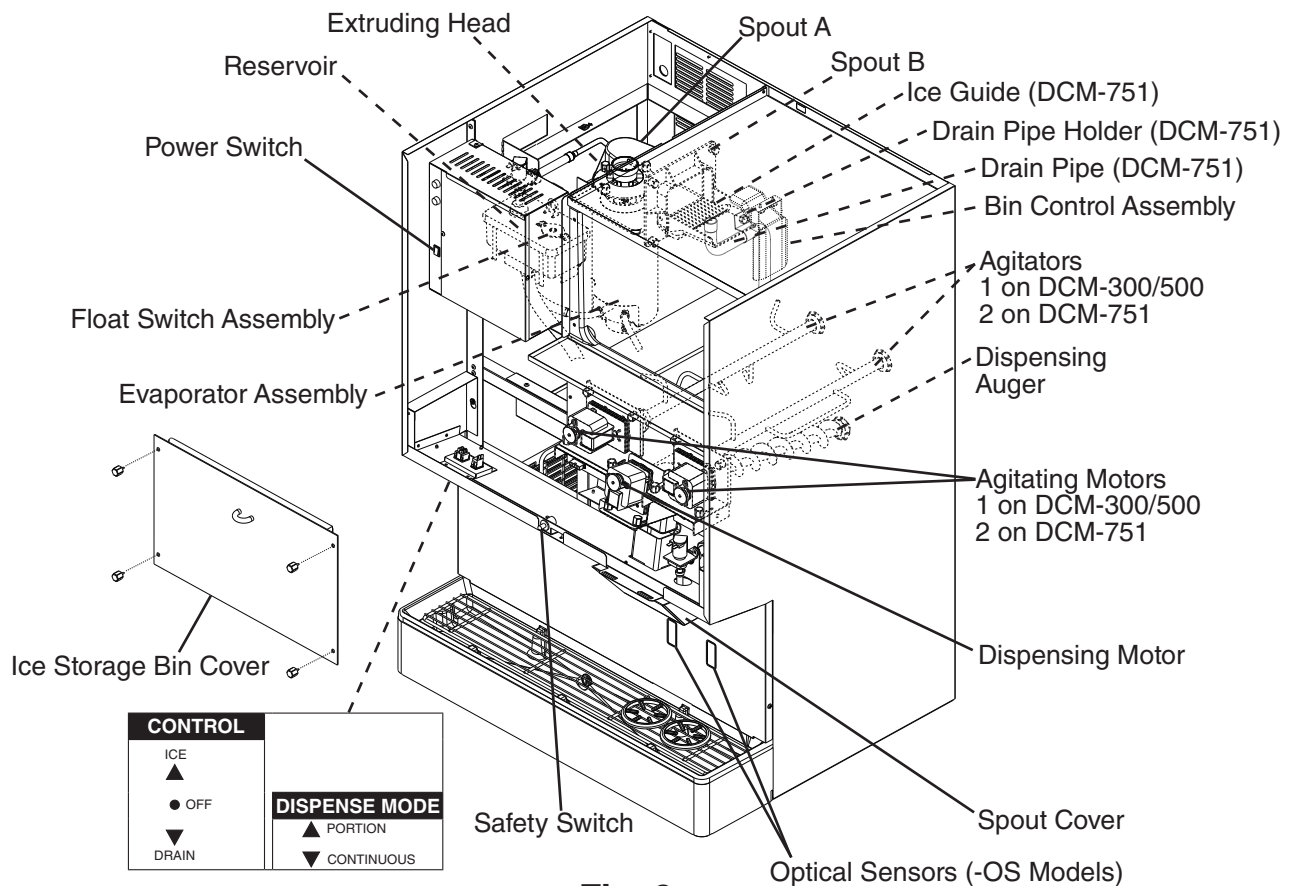
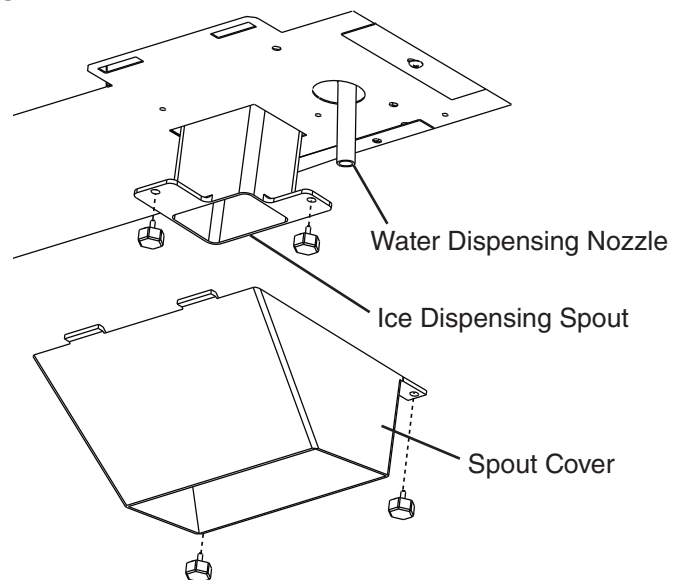

Fig. 9
Fig. 11
- 2) Move the control switch to the "OFF" position, pause momentarily, then move to the "DRAIN" position. See Fig. 9. Allow the water system to drain for 5 minutes.
- 4) Remove the motor bracket thumbscrews, first from the vertical plane and then from the horizontal plane. While holding on to the corresponding agitator or auger, move the agitating motor or the dispensing motor towards you. Remove the agitator(s) and the dispensing auger from the ice storage bin. See Fig. 9.
- 8) Remove the spout cover, ice dispensing spout, and water dispensing nozzle. See Fig. 11. On DCM-751 model, also remove the ice guide, drain pipe holder, and drain pipe from the ice storage bin. See Fig. 9.